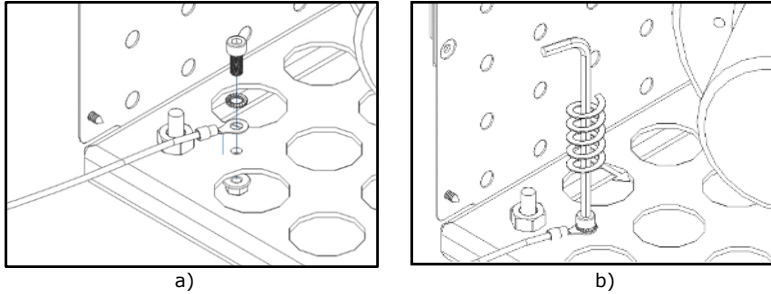

Figure 64 – Connecting the fan earth wire
k) To perform the electrical connections, first, connect the earthing wire to the unit. In order to do that, you must attach either end of the wire near the hole on the base of the unit. Using the C screw, nut and washer, tighten the cable to the bottom surface, as illustrated in Figure 64-b.